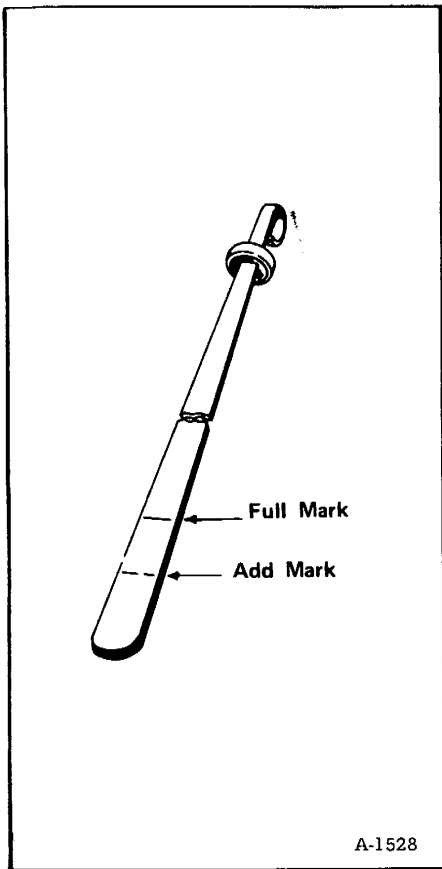

Fig. 35 Do not overfill
6. Fill to dipstick "Full" level. Do not overfill (Figure 35).